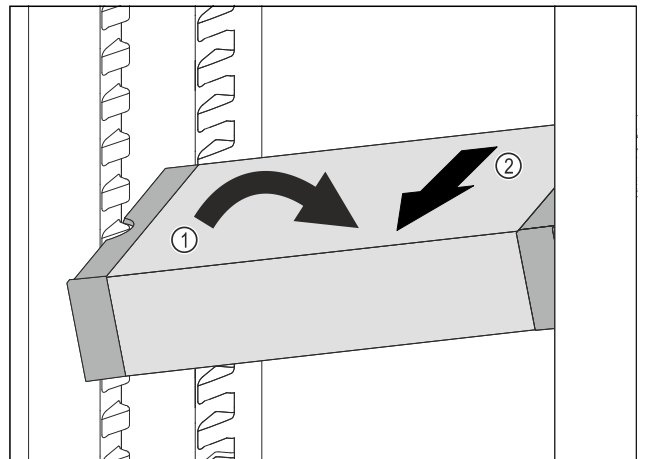

Fig. 47
- ▶ Set VarioSafe in refrigerator compartment at an angle. Fig. 47 (1)
- ▶ Take VarioSafe out to the front. Fig. 47 (2)